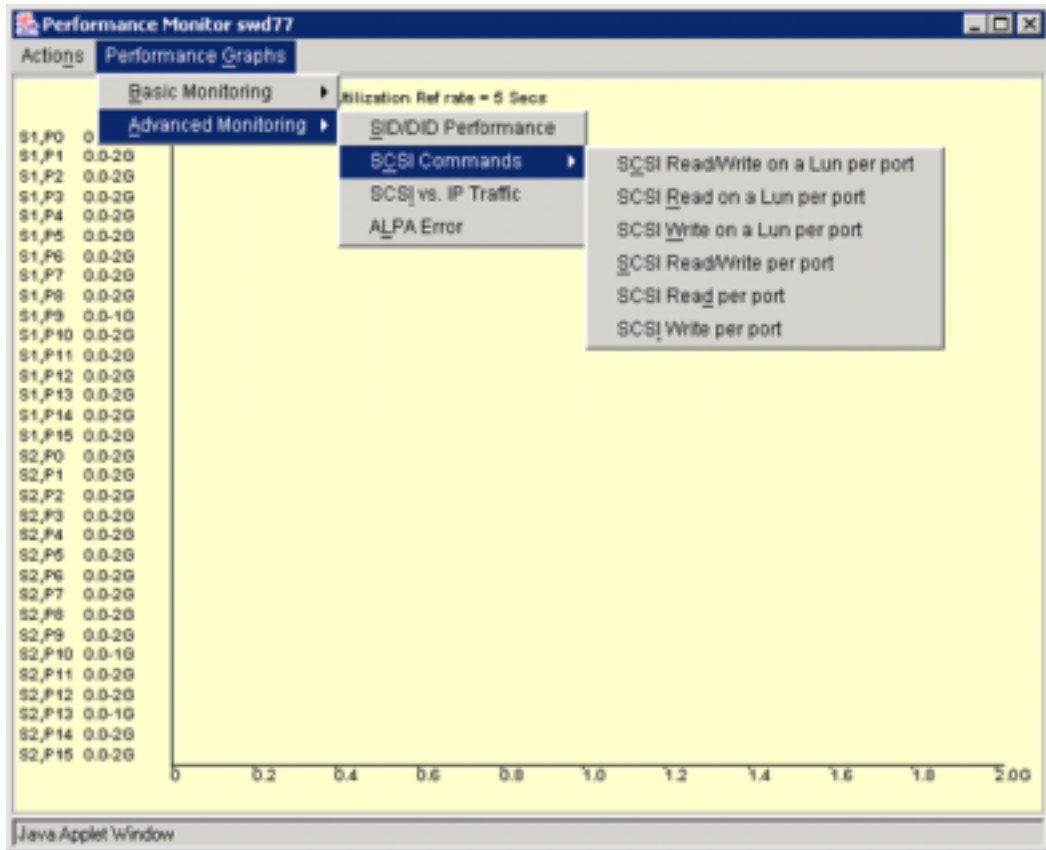

Figure 2-3 Accessing Performance Graphs
2. Select either **Basic Monitoring** or **Advanced Monitoring**, and choose the specific graphs from the submenus, as shown in Figure 2-3 on page 2-5.
Figure 2-3 shows how to access the list of advanced performance monitoring graphs using Web Tools.